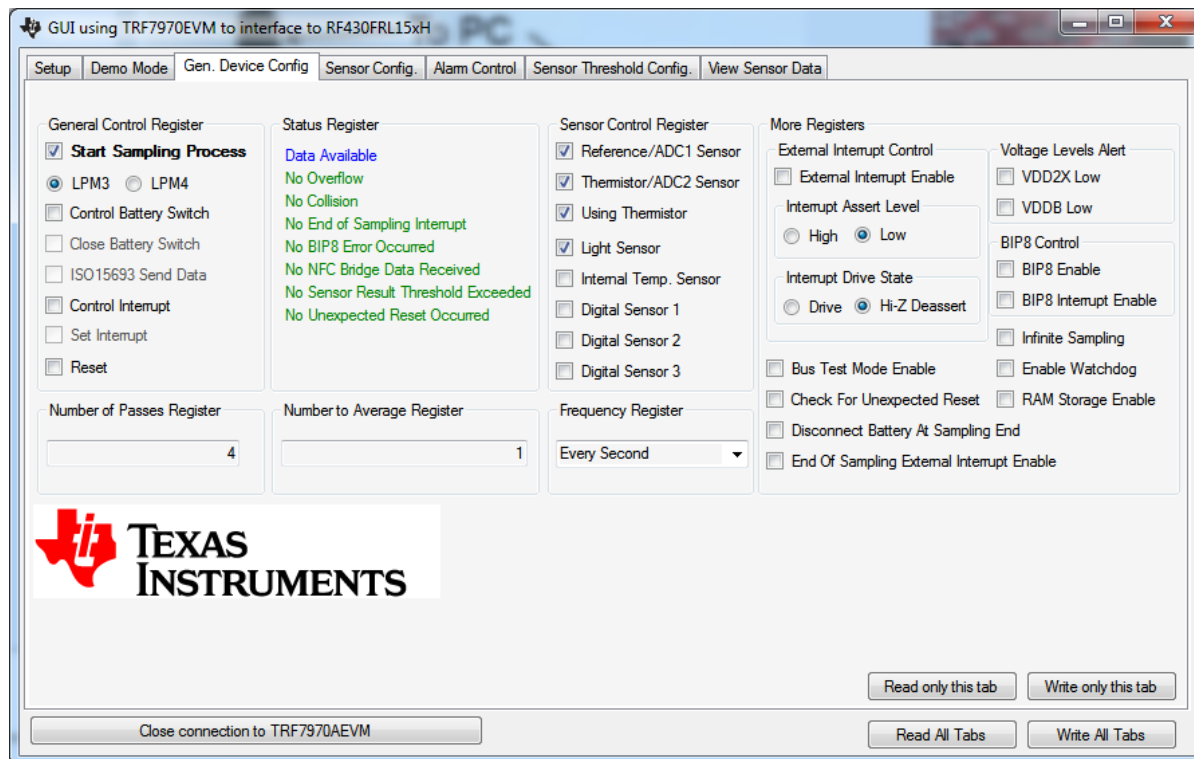

Figure 17. Custom General Device Configuration
12. Figure 17 shows the "Gen. Device Config" tab with these settings.